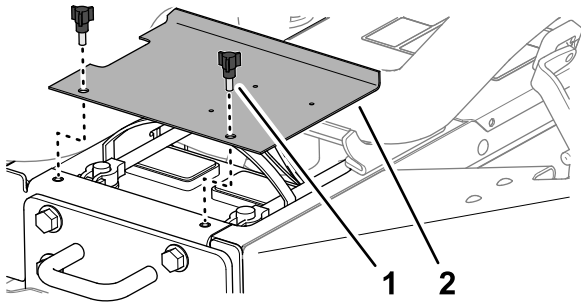

Figure 56
1. Release the latches at the left side and right side of the hood (Figure 56).